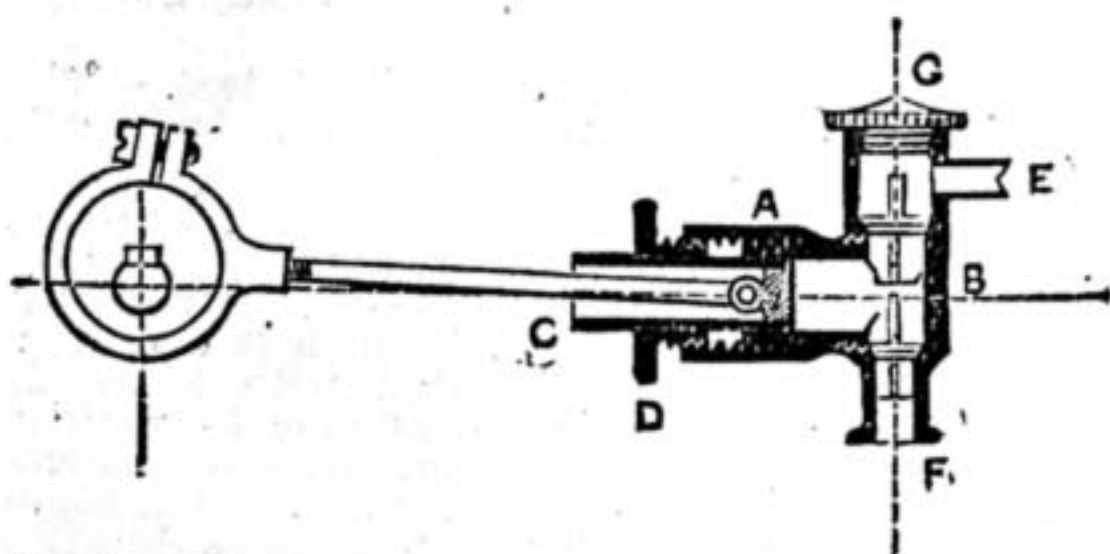

Fig. 1.—Force Pump and Eccentric for Model Engine.
**Pump and Pressure Gauge for Model Engine.**—W. N. (Birmingham).—If the boiler of your engine is only 7 in. long by 3 in. diameter, the feed pump will be very tiny, and will very likely cost you as much trouble as to make the whole engine. You might make it  $\frac{1}{2}$  in. diameter and  $\frac{1}{2}$  in. stroke. I once had one, that worked, of  $\frac{1}{2}$  in. diameter and about  $\frac{1}{2}$  in. stroke. It is useless to "fiddle" over such a little thing, nevertheless I send a sketch of mine used with a 1-in. cylinder, 2-in. stroke. Fig. 1: A is the body, screwed and then